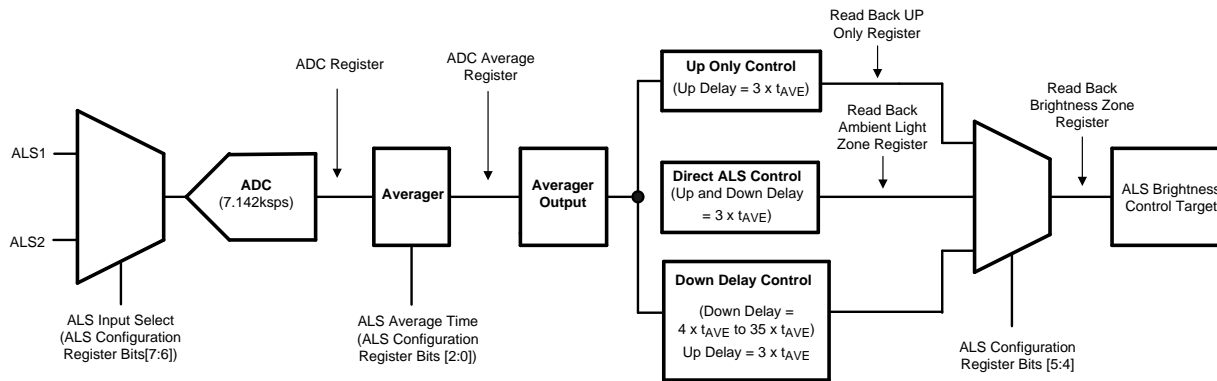

Figure 33. ALS Functional Block Diagram
Figure 33 shows a functional block diagram of the LM3532's ambient light sensor interface.
5. The Averager Output (see Figure 33) contains the zone that is determined from the most recent full average period.